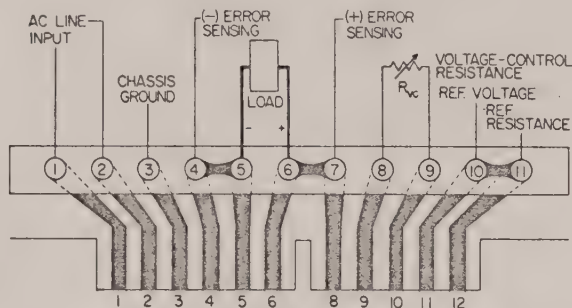

FIG. 2-1 PAX POWER SUPPLY, TERMINATIONS
2.3 TERMINATIONS (Refer to Fig. 2-1)
NOTE: In the following instructions reference is made to the barrier terminals only. See Fig. 2-1 for correlation between barrier strip terminal numbers and printed circuit connector pin numbers.